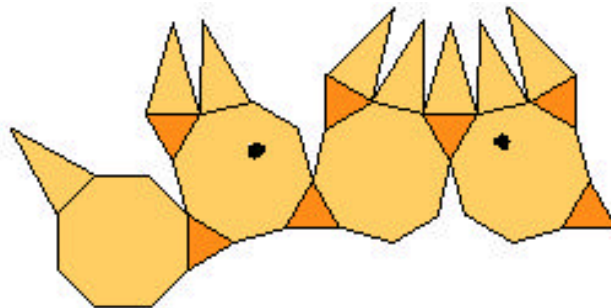

Figure 6-10. The folding net for Jesse's fish head. He took some time positioning the eyes in the correct place.
* Jesse worked with a very early version of JavaGami -- the unfolding algorithm was still slightly buggy at this point, and the net for the fish head in Figure 6-10 was indeed missing a polygon.